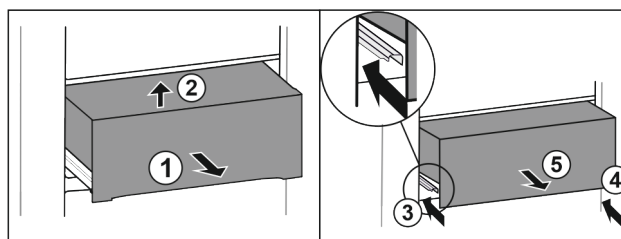

Fig. 35*
- Pull out the drawer half-way Fig. 35 (1).*
- Lift at the front Fig. 35 (2).*
- Insert left rail Fig. 35 (3).*
- Insert right rail Fig. 35 (4).*
- Take out the drawer to the front Fig. 35 (5).*